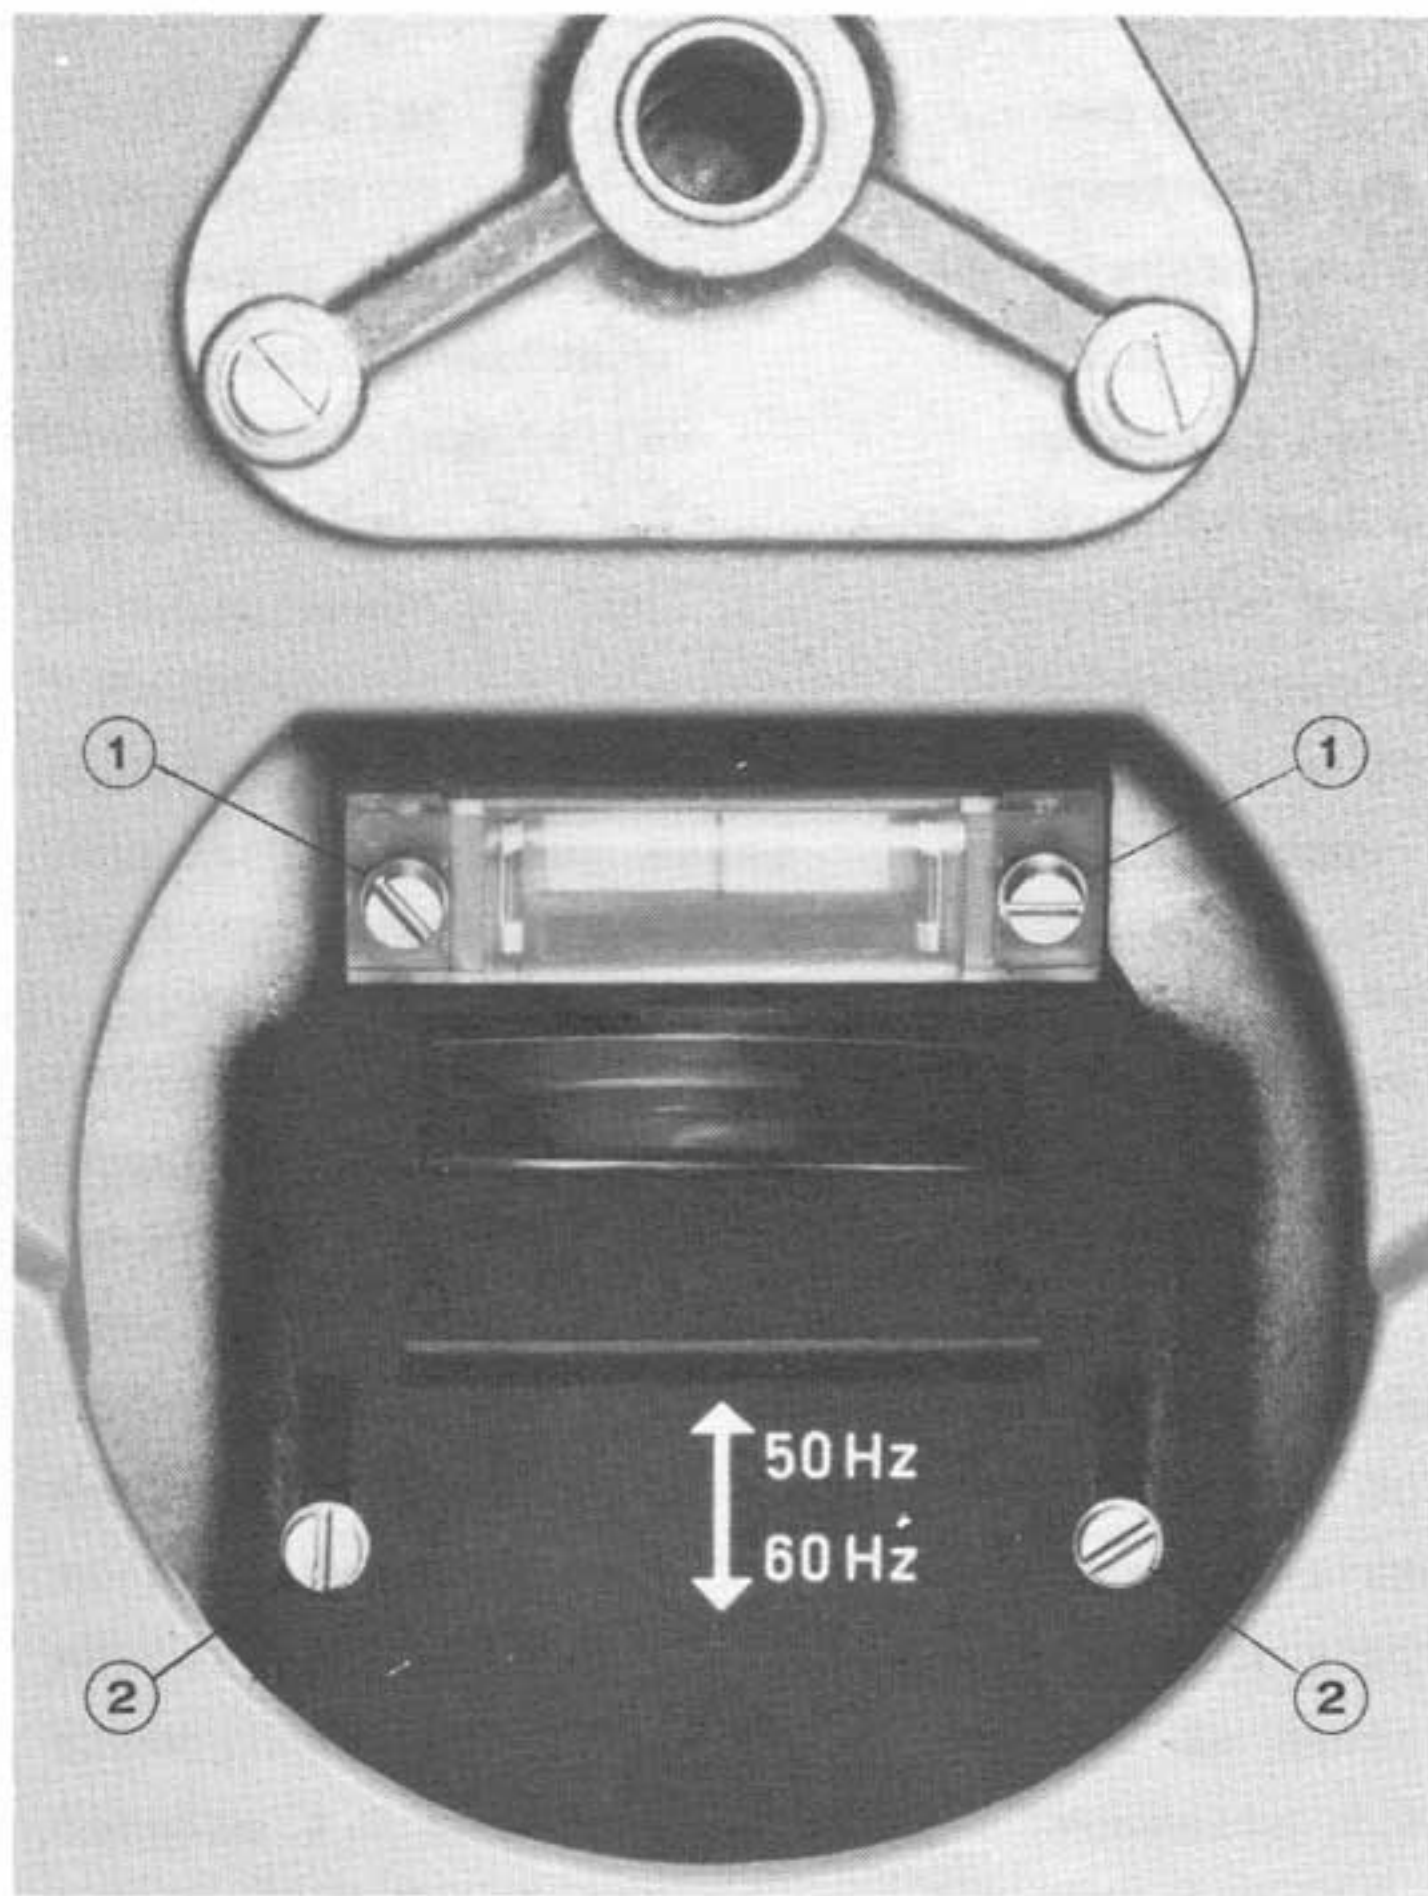

FIG. 3
Remove the inner and outer turntable, the neon bulb is then accessible, located under a cylindrical lens at the upper edge of the black stroboscope plate. After unscrewing both screws Fig. 3, (1) left and right beneath the lens, the lens and the neon bulb in its plastic housing can be removed. Then both lead terminals may be pulled off the neon bulb.
Normally it is not necessary to replace these parts, but the mirror and the lens system may be soiled after a certain time. To clean this system unscrew both screws Fig. 3 (2) and remove the entire neon bulb carrier with the lens system.